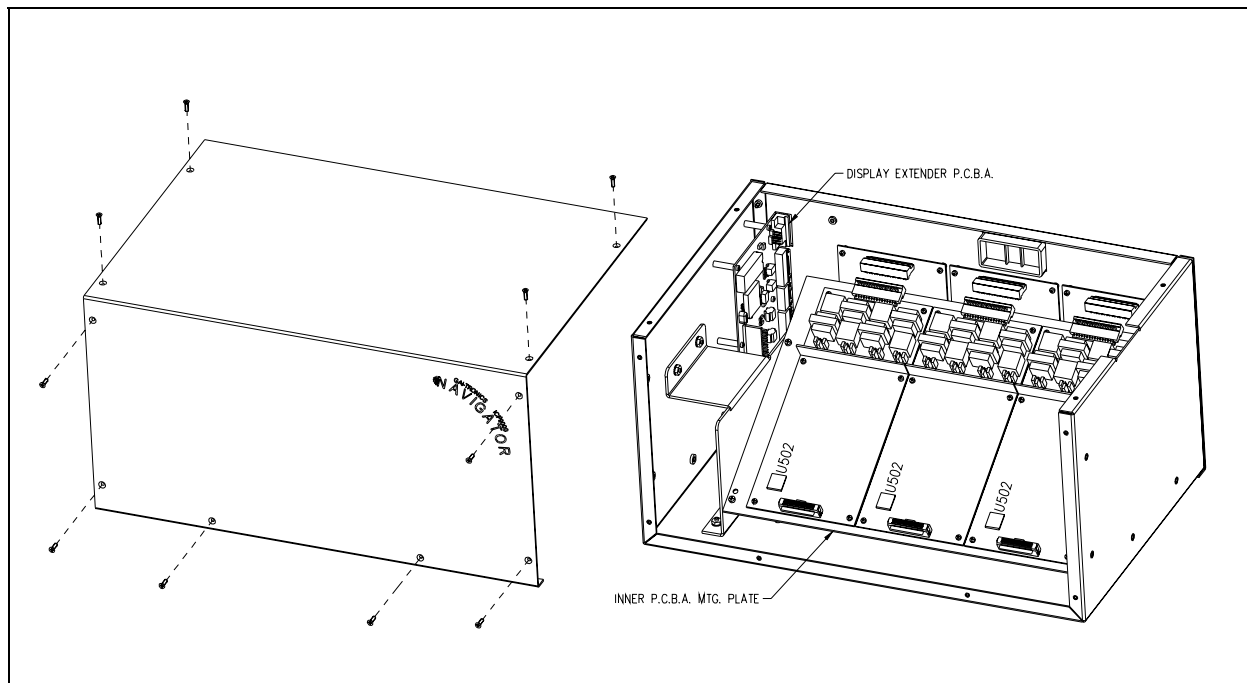

Figure 1.
2. Remove the 10 screws securing the side cover panel and gently lift the cover off. See Figure 1.
7. Disconnect the (SLV-CBL-P) cables from the surge suppression PCBAs. This allows you to remove the inner PCBA mounting plate to gain access to the main PCBA. Refer to Figure 1.